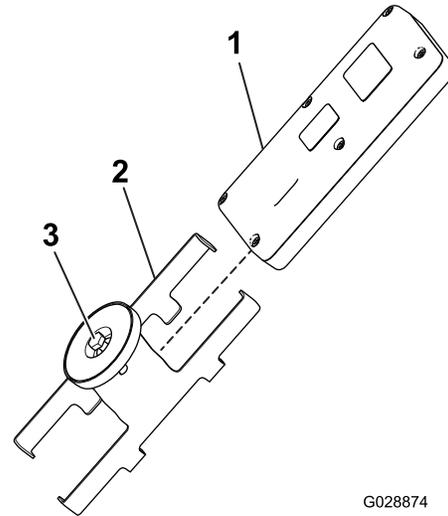

Figure 13
5. Install the handheld remote into the magnetic remote bracket, slide the halves together to secure the remote, and tighten the bolt in the magnet (Figure 13).